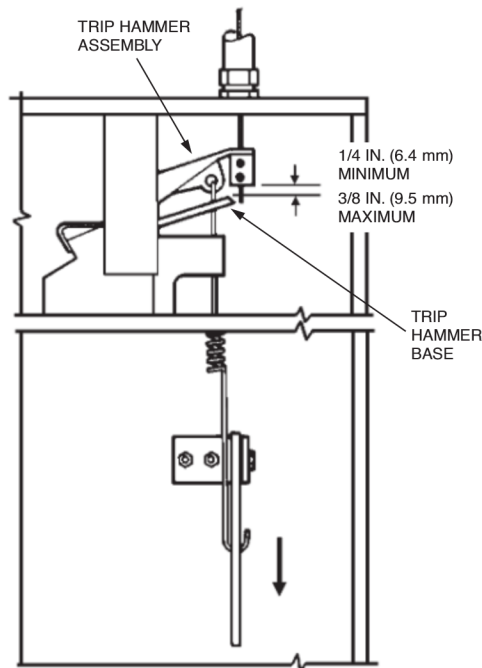

FIGURE 7
27. Inspect the base of the wire rope clamping device to make certain that there is a minimum of 1/4 in. (6.4 mm) and a maximum of 3/8 in. (9.5 mm) clearance between the base of the trip hammer assembly and the cable lever assembly. See Figure 7.